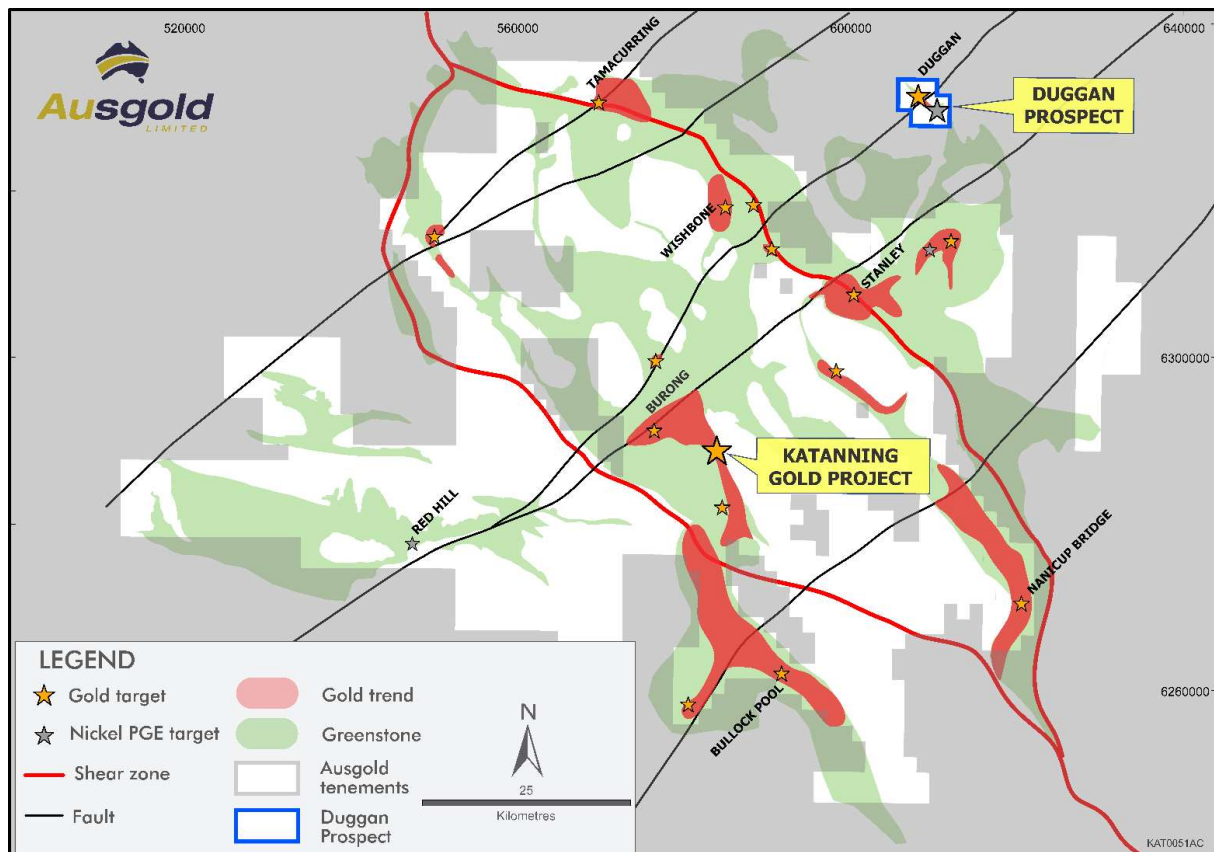

Figure 1 – Regional geological map showing location of the Duggan Project
The Duggan prospect is located 50km (Figure 1) along sealed roads northeast of Ausgold's existing 2.16 Moz flagship Katanning Gold Project (**KGP**). The recently completed phase two drill program of 1,216m of reverse circulation (RC) drilling has intercepted extensive gold mineralisation extending along strike and down dip from previous RC results, which included **7m @ 4.05 g/t Au from 19m** including **5m @ 5.50 g/t Au from 19m** in DUGRC015 and **4m @ 5.48 g/t Au from 72m** including **3m @ 7.17 g/t Au from 72m** in DUGRC019 (see ASX Release 26 April 2022).